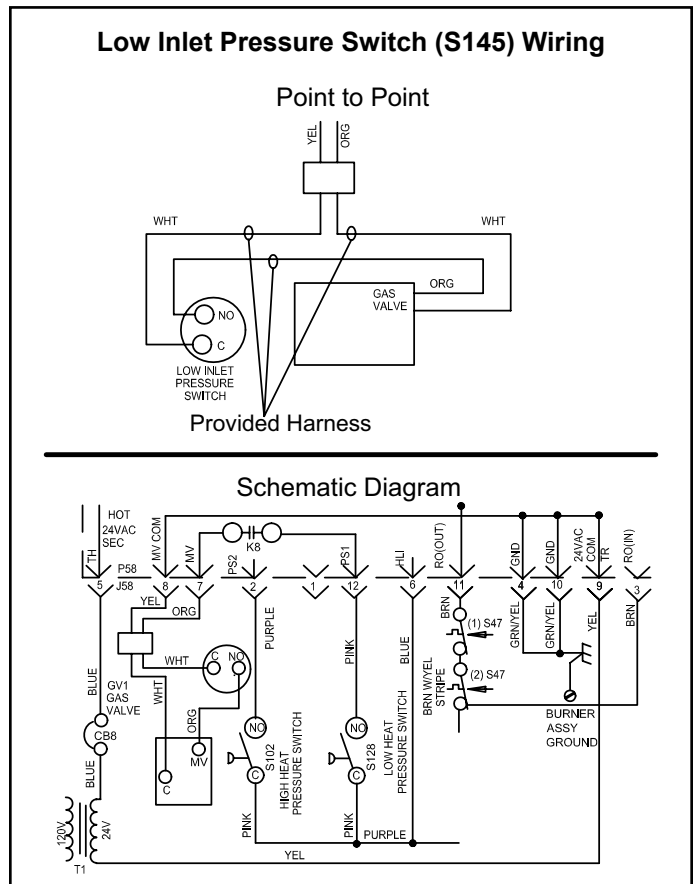

Figure 3
13. Thread pressure switch (S145) to brass fitting 2 to 3 turns past hand tight, then wire as shown in figure 3.